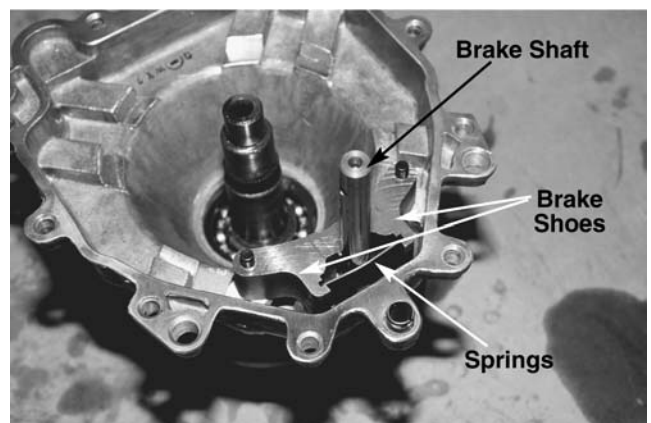

Figure 10-62.
22. Install the brake components by installing the brake actuating shaft into the housing, then installing the brake shoes next, one inverted next to the other. Insert the two dowel pins through the brake shoes into the housing, then insert the brake spring with the bend around the shaft. See Figure 10-62.